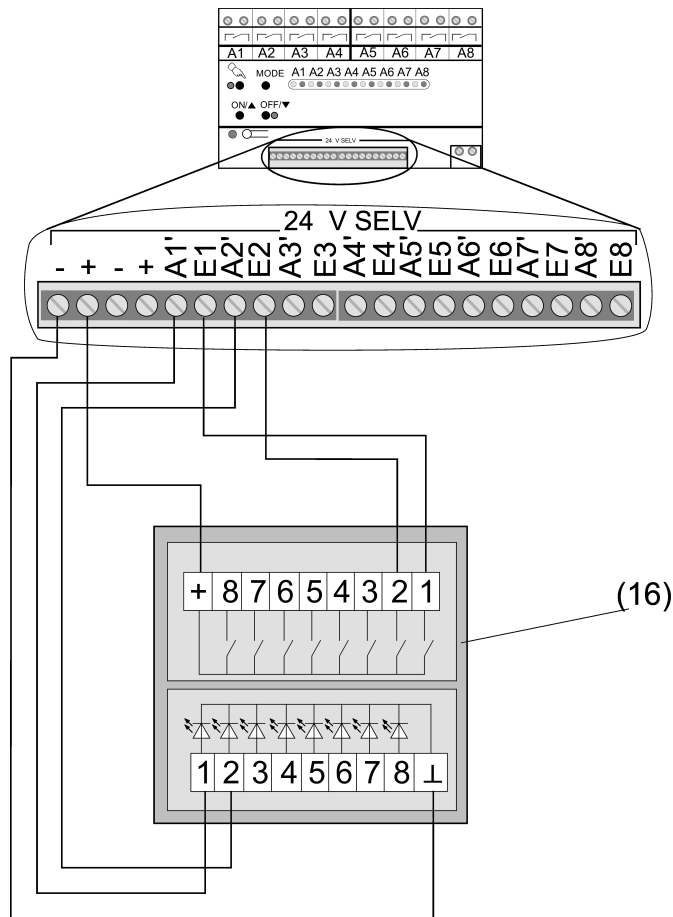

Figure 5: Connection example with 24 V push-button sensor, 24 V push-button sensor module, 4-gang
- Establish the connection according to the connection example (see figure 5).